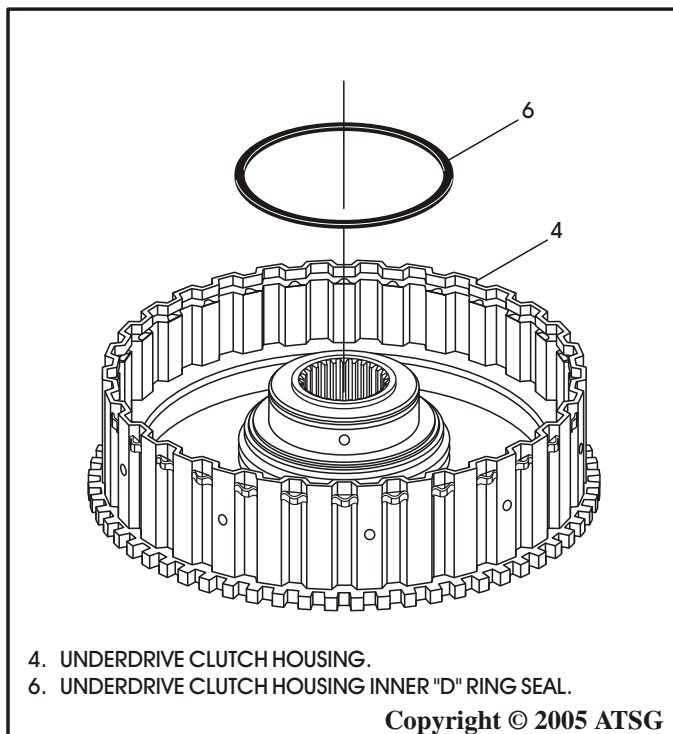

Figure 110
4. Install new underdrive clutch inner "D" ring seal in underdrive clutch housing, as shown in Figure 110, and lube with a small amount of Trans-Jel®.